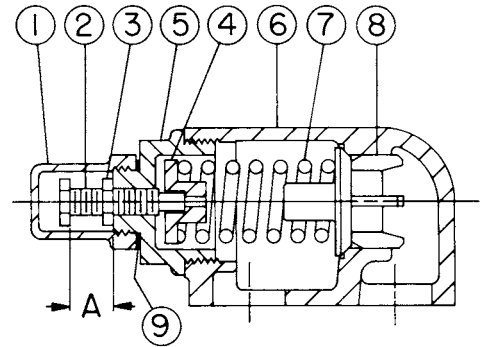

FIGURE 16 - SIZE G, H AND HL
2. Measure and record length of extension of adjusting screw. Refer to “A” on Figures 16, 17 and 18, page 9.